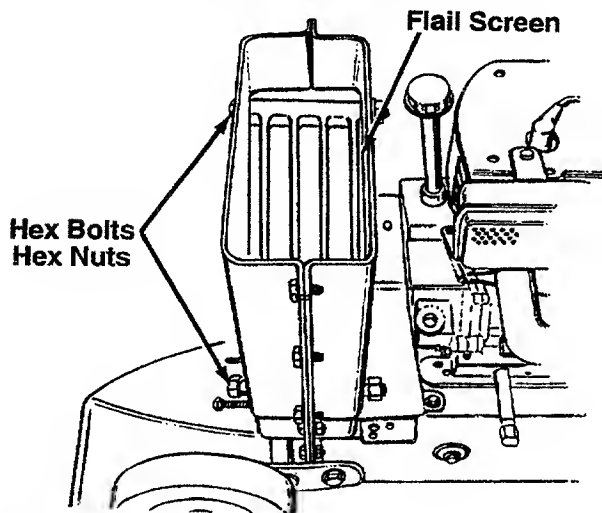

FIGURE 19.
- Remove the two hex bolts and hex nuts which extend through the housing. Lift the flail screen from inside the housing. See figure 19.
NOTE: Be certain to reassemble the flail screen with the curved side down as shown in figure 19.
- Remove the plastic belt cover on the front of the engine by removing two self-tapping screws. Refer to figure 19.